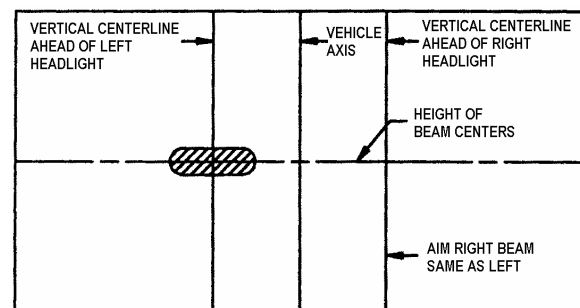

FIGURE 27: HIGH-INTENSITY ZONE (SHADED AREA) OF A PROPERLY AIMED UPPER BEAM ON THE AIMING SCREEN 7.6 M (25FT) IN FRONT OF VEHICLE
6. Low beam headlights are aimed so that the top edge (the cutoff) of the high-intensity zone is at the vertical location as per Table 1 and the left edge of the high-intensity zone is at the vertical centerline of the headlight (Fig. 27).